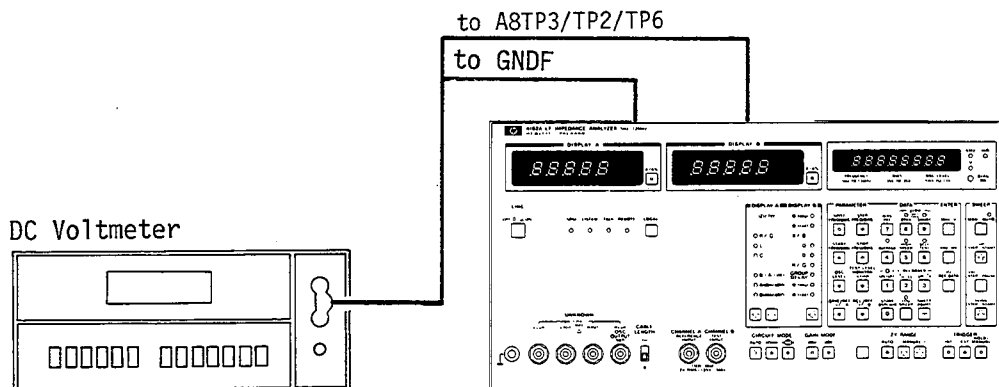

Figure 5-2. A8 DC Bias Check and Adjustment Setup.
- (1) ± 40 V Unregulated Bias Check
- c. Connect the high lead to A8TP3 and the low lead to "GNDF" next to A8TP3 as shown in Figure 5-2.